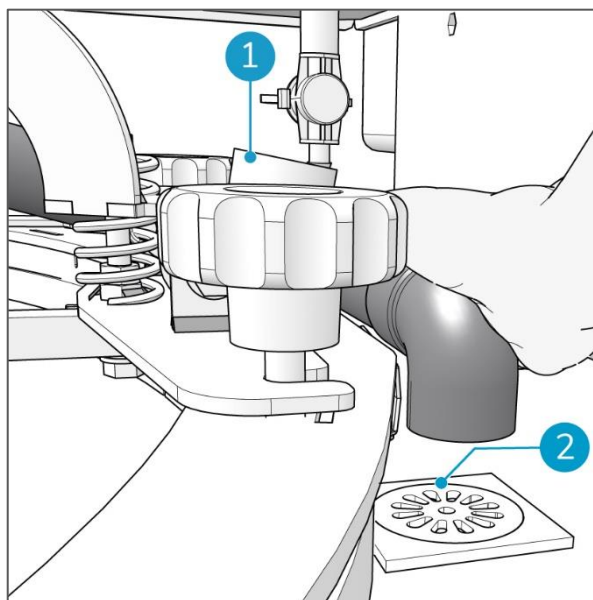

Figure 65
5. Remove the vacuum hose from the hose connector of the squeegee (Figure 65, pos 1).
6. Place the vacuum hose end above a recovery water disposal drain (Figure 65, pos 2).
10. When the suction line is clean, replace the vacuum hose on the hose connector of the squeegee (Figure 65, pos 1).